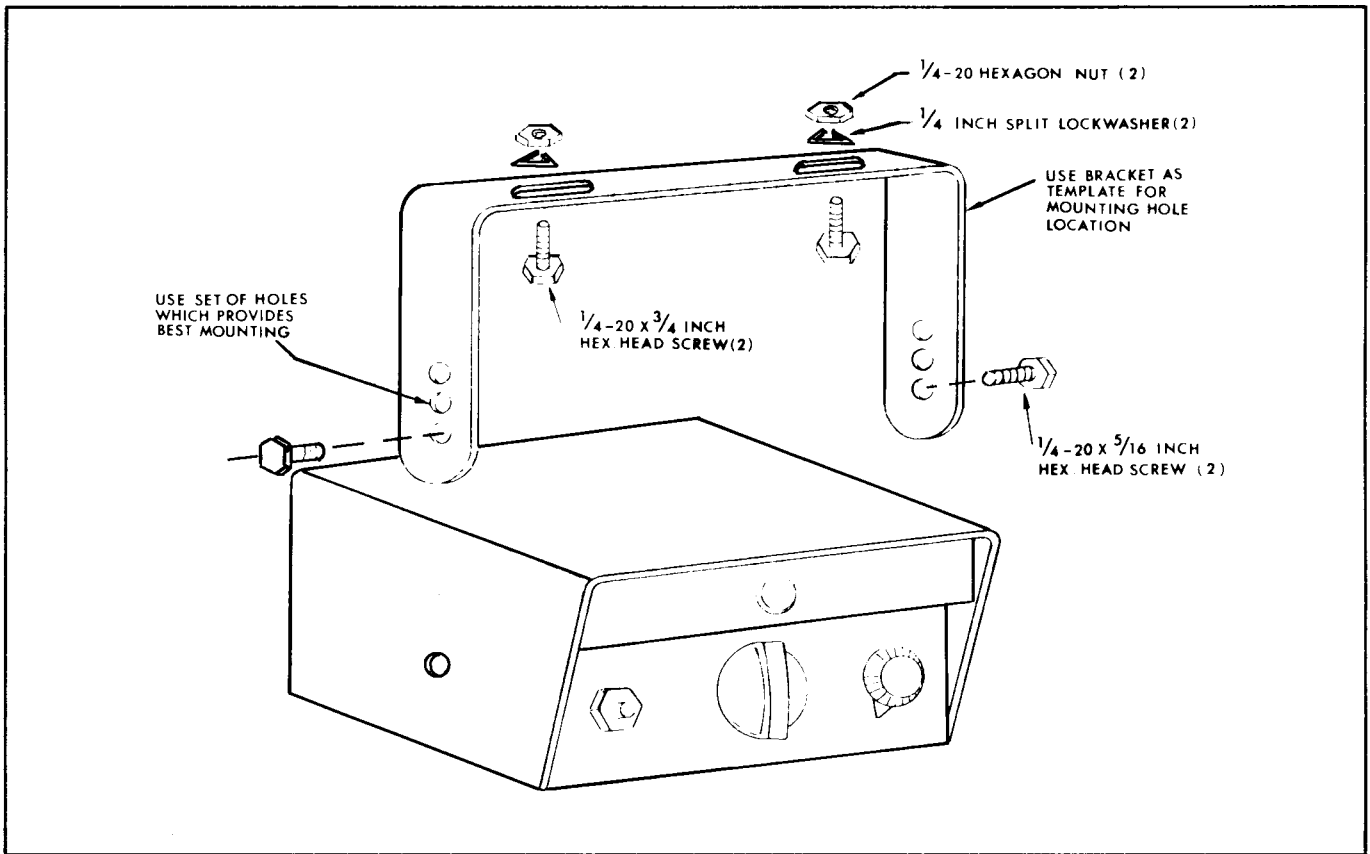

Figure 3. Installation of Mounting Bracket.
- C. Mount the bracket with the  $\frac{1}{4}$ -20 x  $\frac{3}{4}$  hexagon head machine screws,  $\frac{1}{4}$ -20 hexagon nuts and  $\frac{1}{4}$ -inch split lock washers as shown in figure 3.
The height of the unit above or below a surface may be adjusted by selecting a set of mounting holes in the bracket. Mount the unit to the bracket with the two  $\frac{1}{4}$ -20 x  $\frac{5}{16}$  hexagon head machine screws as shown in figure 3. The unit may be tilted to any convenient position.